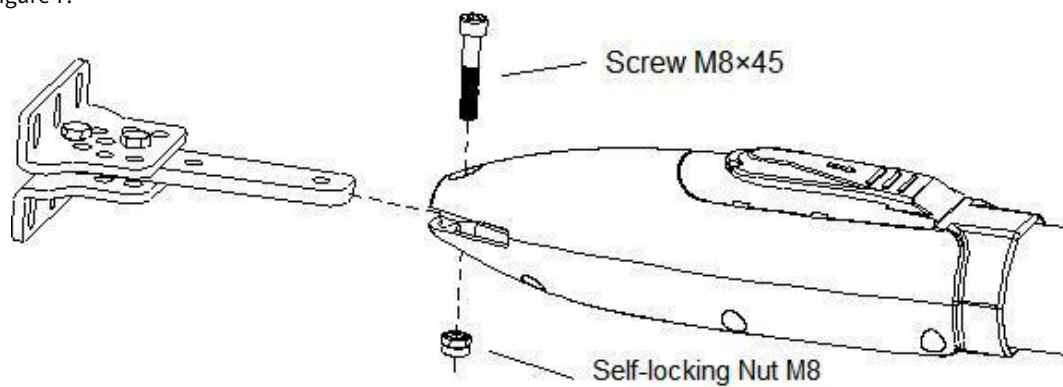

Figure 7
D) Connect the main machine with bolt and nut connection brackets as shown in the Figure 7.